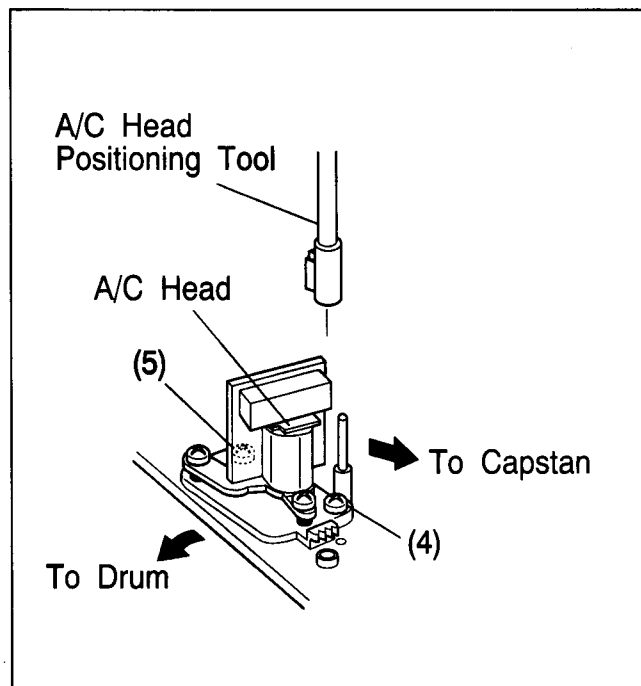

Fig. 2-7-6
- (1) Connect the oscilloscope to TP106(PB FM/COL) on the Main board. Use TP111(D.FF) on the Main board as a trigger.
- (2) Playback the SP stairstep portion of the alignment tape then press the CH "▲" or "▼" button once during playback mode.
- (3) Set the neutral manual tracking position by simultaneously pressing the CH "▲" and "▼" buttons.
- (4) If adjustment is required, slightly loosen screws (4) and (5). Set A/C head positioning tool on the A/C head adjusting boss as indicated in Fig.2-7-6.